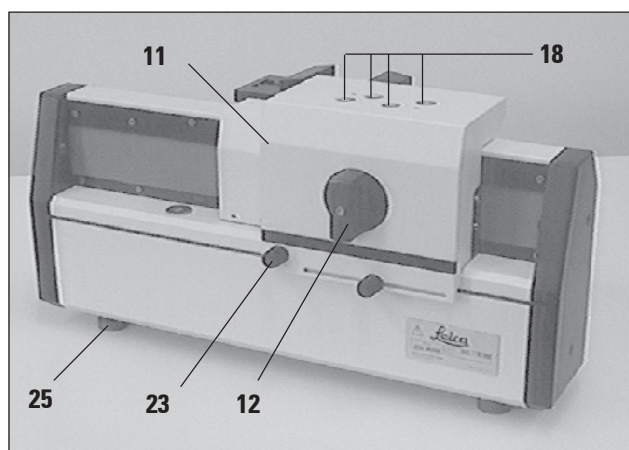

Fig. 12.1
- 18 4 holes in the knife sledge for mounting the knife holder (covered by the knife holder in Fig. 7.1 and 7.2, see Fig 12.1)